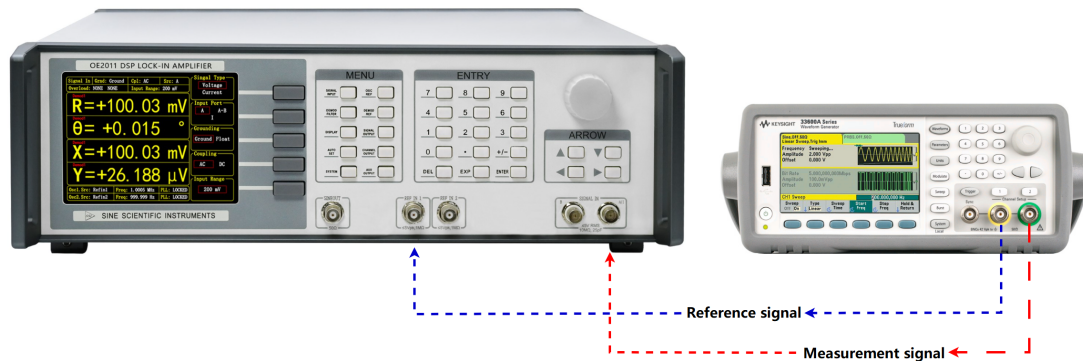

Figure 92. Signal Cable Connection Diagram
2. Use a signal cable with BNC connectors to connect the output connector of the function generator to the IN+ connector of SIGNAL IN on the front panel of the OE2011. Use another BNC signal cable to connect the synchronous reference signal connector of the function generator to the REF IN 1 connector on the front panel of the OE2011, as shown in Figure 92.